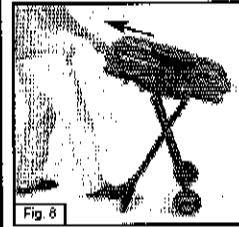

Fig. 8
- Continue to pull stove handle toward you until stand is fully extended. (Fig. 8)